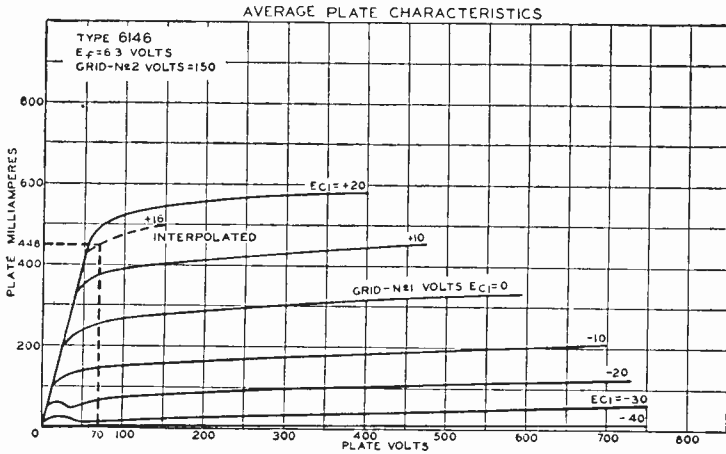

Fig. 44
(3) From the plate family for the 6146 given in Fig. 44 ( $E_{c2}=150$  volts), a suitable value for effective minimum plate voltage ( $e_{b\min}$ ) to the right of the "knee" is 70 volts. The corresponding peak positive grid-No.1 voltage ( $e_{c1\max}$ , determined from  $E_{c1}$  curves) for a peak plate current of 448 milliamperes is approximately +16 volts.
(4) From Table I,  $K_2$  for a conduction angle of 140 degrees is 0.862. Therefore, power output ( $P_o$ )=0.862  $\times$  (600-70)  $\times$  0.112=51 watts.
(5) Plate dissipation ( $P_p$ ) = (600  $\times$  0.112) - 51 = 16.2 watts. This value is well within the maximum plate-dissipation rating of the 6146 for class C telegraphy under CCS conditions (20 watts).
(6) The dc grid-No.1 or bias voltage ( $E_{c1}$ ) and peak rf grid-No.1 voltage ( $E_{g1}$ ) are calculated next. (Note that bias voltage  $E_{c1}$  is not the  $E_{c1}$  shown in the characteristics curves, which represents total grid voltage, i.e., the algebraic sum of the bias  $E_{c1}$  and peak rf grid-No.1 voltage  $e_{c1\max}$ ). From table I,  $K_3$  and  $K_4$  for a conduction angle of 140 degrees are, respectively, 0.520 and 1.520. From the technical data for the 6146, mu-factor ( $\mu_{c2g1}$ ) is 4.5. Therefore,